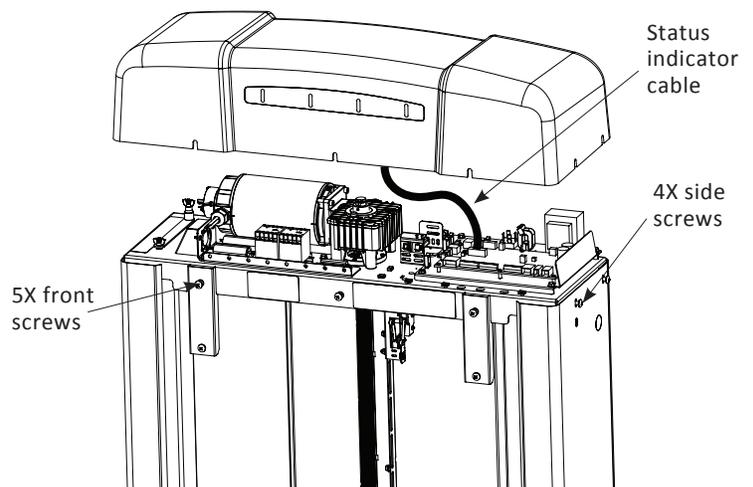

Figure 6-8
1. Loosen seven (7) screws around the perimeter of the top cap with a Phillips head screwdriver.
2. Lift the top cap partially and disconnect the cable between the top cap at the control board. Set the top cap aside. *See Figure 6-8.*